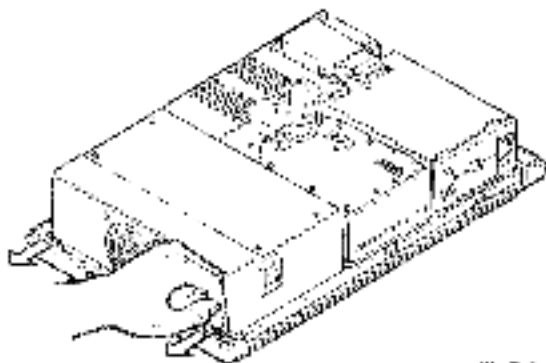

Figure 2-30 Power Supply Release Clips
4. Find the two release clips on the side of the power supply near the fan assembly. Pull each clip out (Figure 2-30).